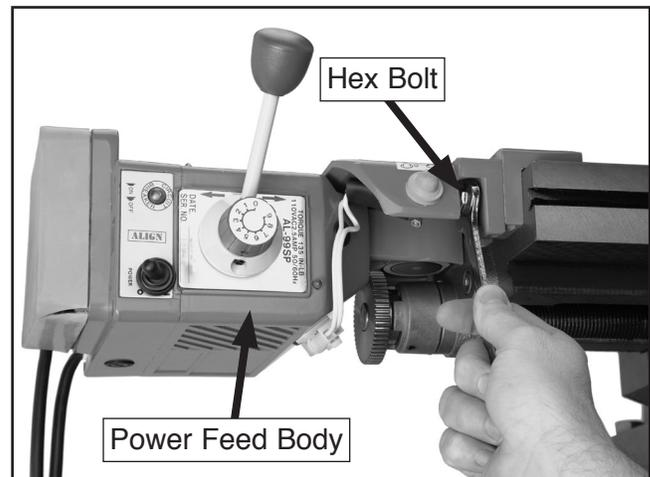

Figure 12. Attaching power feed body.
3. Attach the power feed body to the clamping bracket assembly with the hex bolts. Before tightening completely, position the power feed body so the gears mesh perfectly. Tighten the hex bolts when the gears are in mesh (**Figure 12**).